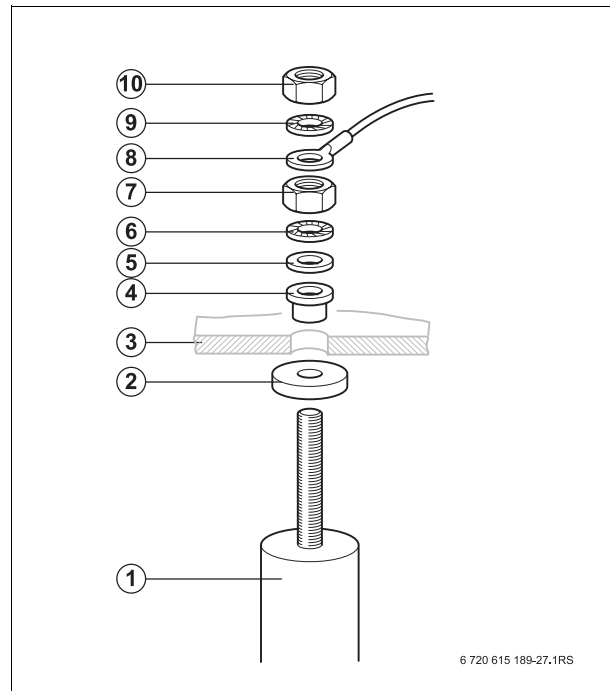

Fig. 18 Replacement of magnesium anode rod
- Fit the new magnesium anode together with all small parts supplied with it, as shown in Fig. 18.